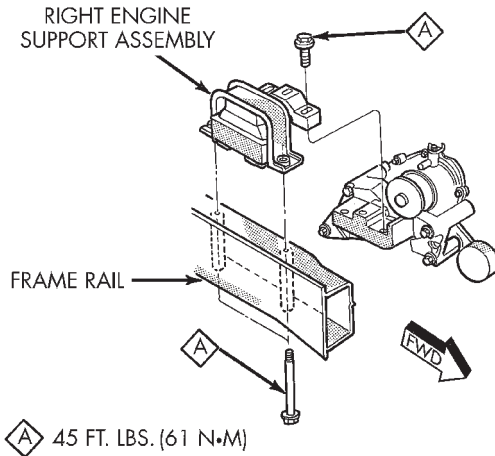

Fig. 24 Engine Mounting—Right Side 2.5L
- (1) Raise vehicle on a hoist and remove inner splash. Remove the right engine support assembly vertical fasteners from frame rail (Fig. 24).
- (2) Lower vehicle. Remove the load on the engine motor mounts by carefully supporting the engine assembly with a floor jack.
- (3) Remove the three bolts attaching the engine support assembly to the engine bracket.
- (4) Move the air conditioning dryer aside.
- (5) Remove coolant recovery system tank. Refer to Group 7, Cooling System for procedure.
- (6) Remove right engine support.
- (7) Remove the three bolts attaching the engine support bracket to the cylinder block.
(8) Reverse removal procedure for installation. Refer to (Fig. 24) for bolt tightening specifications.